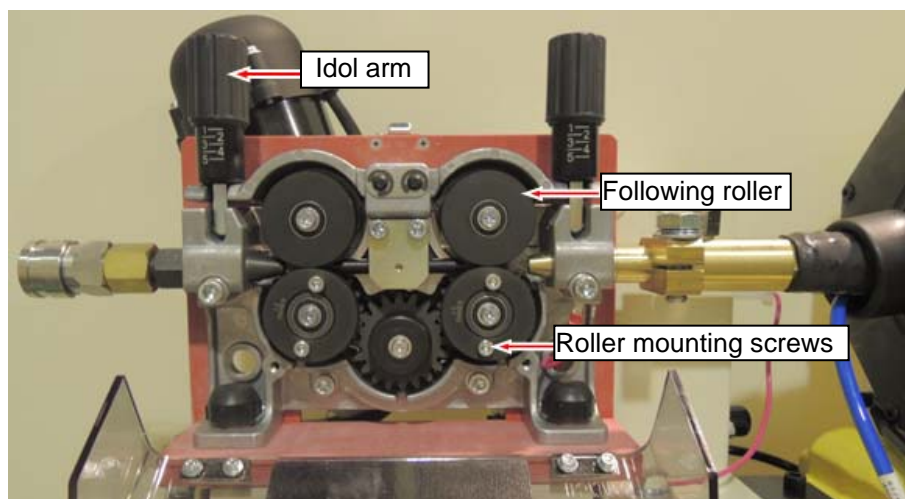

Fig. 8.5 Replacing the rollers
- 1 Lift down the idol arms. (Refer to Fig. 8.5.)